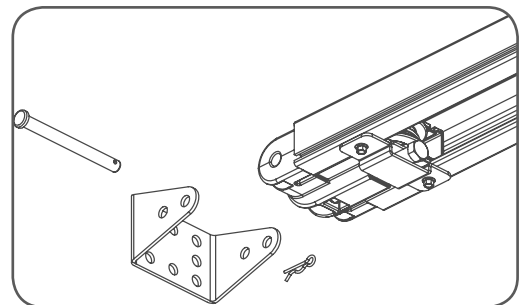

fig 10
- Attach the C-Rail assembly to the wall bracket with the 90mm long clevis pin and secure with the supplied snap pin (**Fig. 10**)